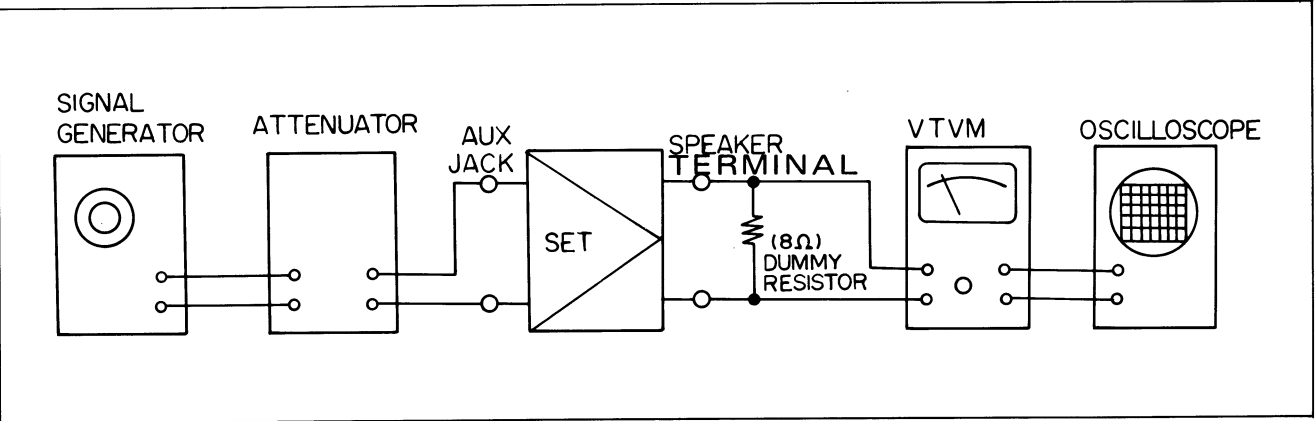

Figure 11
ADJUSTMENT OF MAIN AMP CIRCUIT (See Figure 11 and 12)
5. By using a signal generator (1kHz, 300mV), apply signals to the terminal AUX located at the rear of the set and adjust the volume control and balance control so that the output signal of the speaker terminal (A or B) becomes 1W = 2.0V. (See Figure 11)